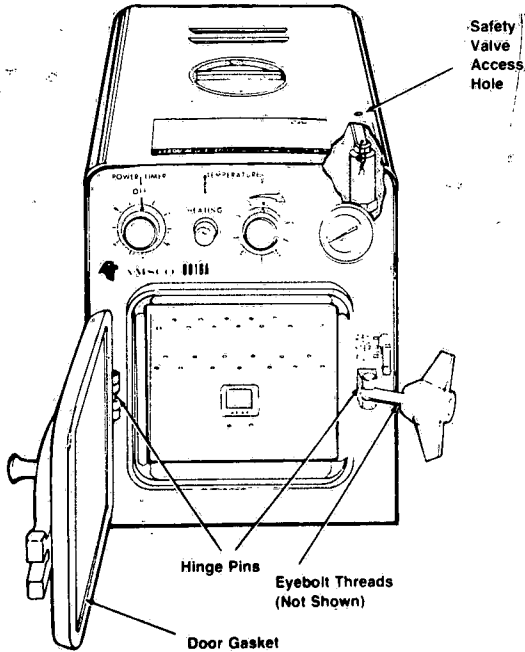

Figure 4-1. PREVENTIVE MAINTENANCE.
2. Clean the door gasket with alcohol or mild detergent (Figs. 4-1 and 7-5). Do not clean gasket with carbon tetrachloride, kerosene, gasoline or other hydrocarbons.
1. Place a few drops of machine oil on hinge pin and lock pin (Figs. 4-1 and 7-1).